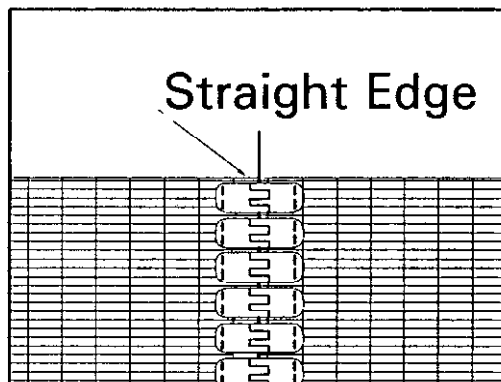

Figure 10
CONVEYOR BELT INSTALLATION/TENSION (Fig. 10 & 11)
6. Feed the lacing through the conveyor belt seam. Make sure the lacing is lined up. If the lacing is off one notch it will cause the belt to buckle and not run straight. Check for straightness with a straight edge once it has been installed. See Fig. 10. After the wire is centered, bend both ends of the wire to prevent the wire from working loose.